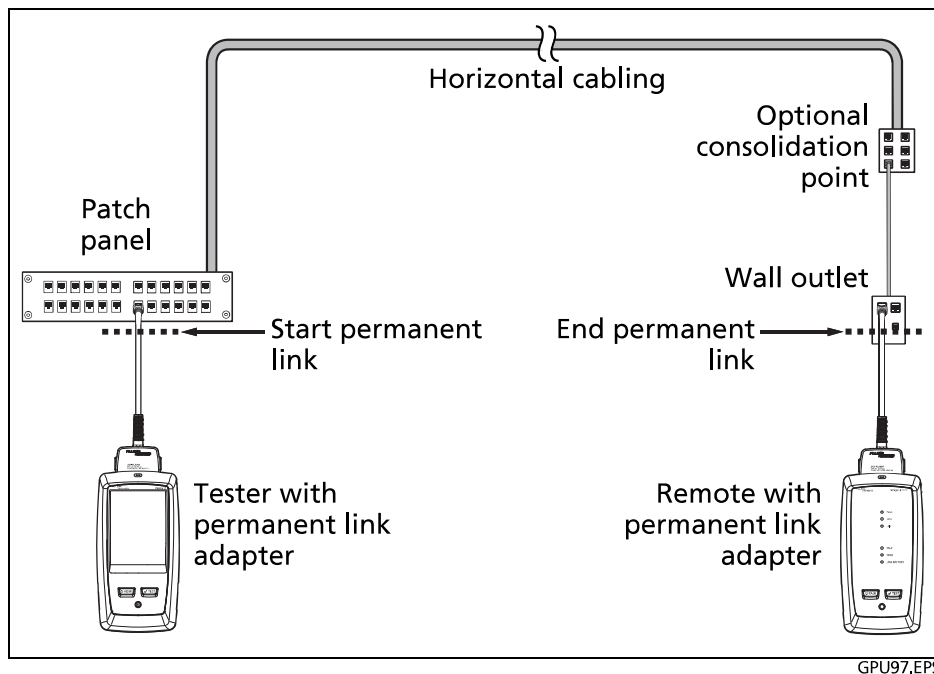

Figure 3. Permanent Link Connections for Links Up to Cat 7A
- 4-1 Connect the testers to the link as shown in Figure 3 or 4.